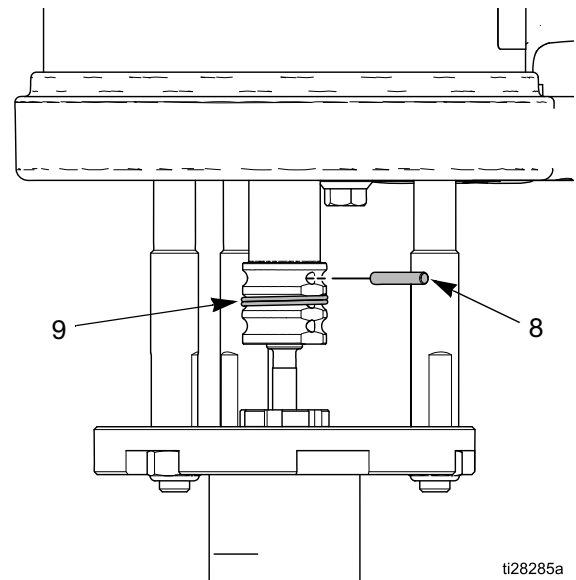

FIG. 4 Retaining spring and connector pin
3. Push the retaining spring up and push out the connector pin using a screwdriver or punch. See FIG. 4.